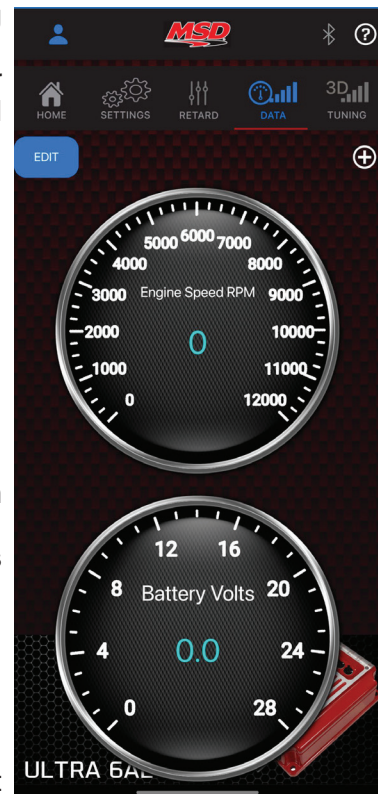

Figure 12. Data Screen
**Step Retard (Deg):** Activated when 12 volts are applied to the Pink wire (nitrous input). Ignition timing Adjustable from 0 to 30 degrees. (Figure 12)
A custom graph, digital readout or gauge can be created from a selection of parameters (Table 5) added by using the plus icon . (Figure 12) Each gauge or digital readout can be moved up or down, custom colors can be selected and display types can be changed as well as units, when applicable, by using the Edit button.